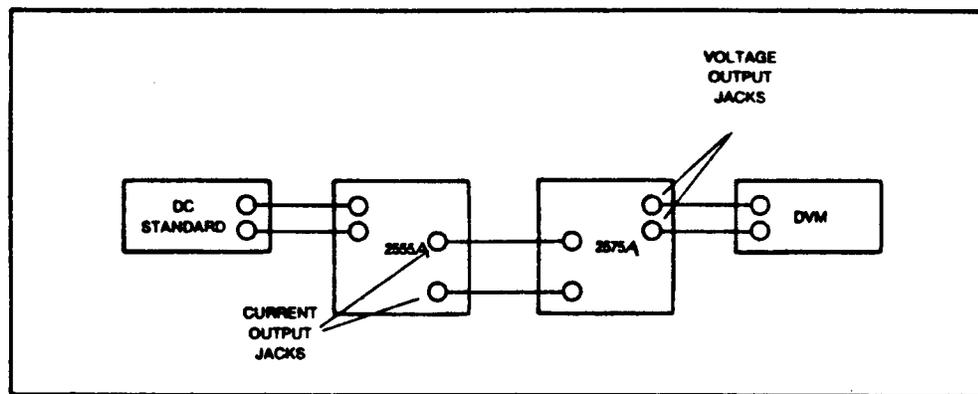

Figure 5-2. DC Calibration Test Equipment Set-Up
- 3) Remove the Current Hi lead of the 2555A from the current shunt (Valhalla 2575A) and connect a 4K Ω 1% resistor between the 2555A and the current shunt (RS). Observe the direction and magnitude of change on the DVM. Adjust R110 for 100.00 \pm 75 microvolts on the DVM.
- 5) Connect the equipment as shown in Figure 5-2.